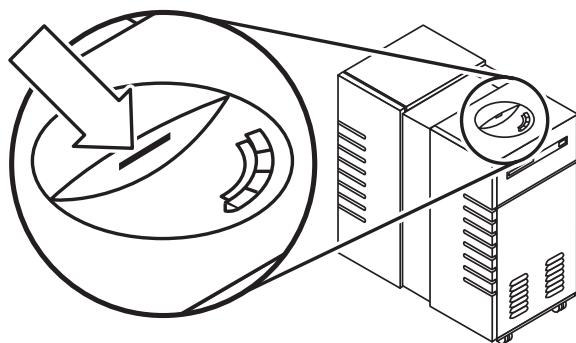

Figure 10: Setting the SCSI ID
4. If necessary, use the jukebox control panel to set the drive and jukebox SCSI IDs (see Figure 10). Select **READY > ADMIN * > SCSI ID'S *** from the menu. Ensure that there are no SCSI ID conflicts with existing devices.